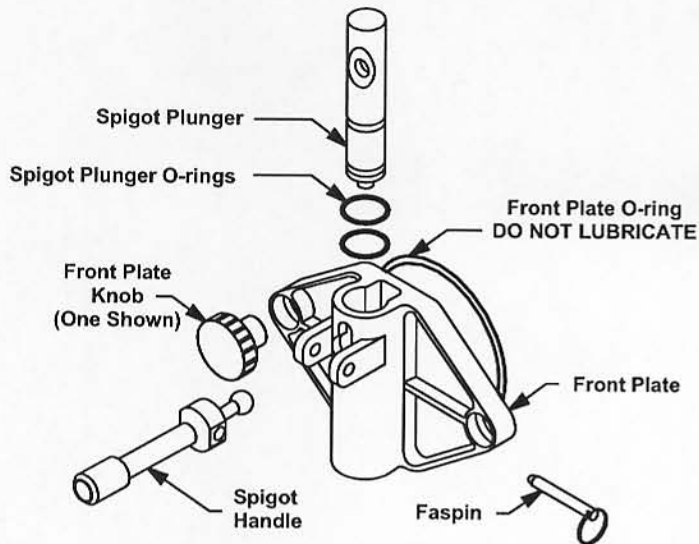

Fig. 28
- b. Slide the lubricated spigot plunger into the front plate (Fig. 28) ensuring the spigot handle slot is aligned to the front.